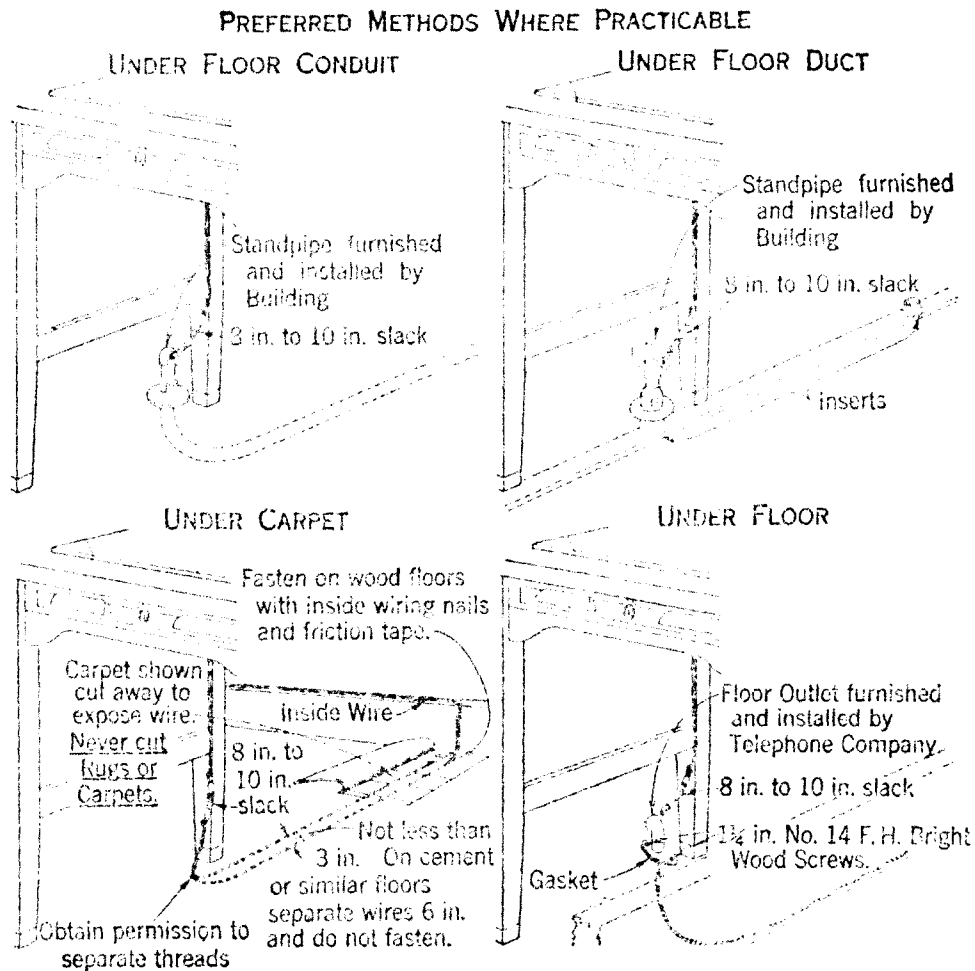
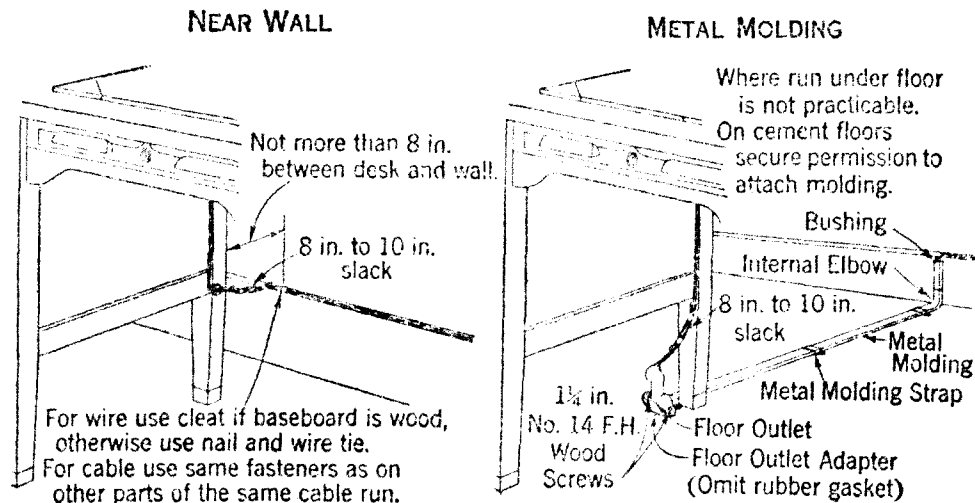
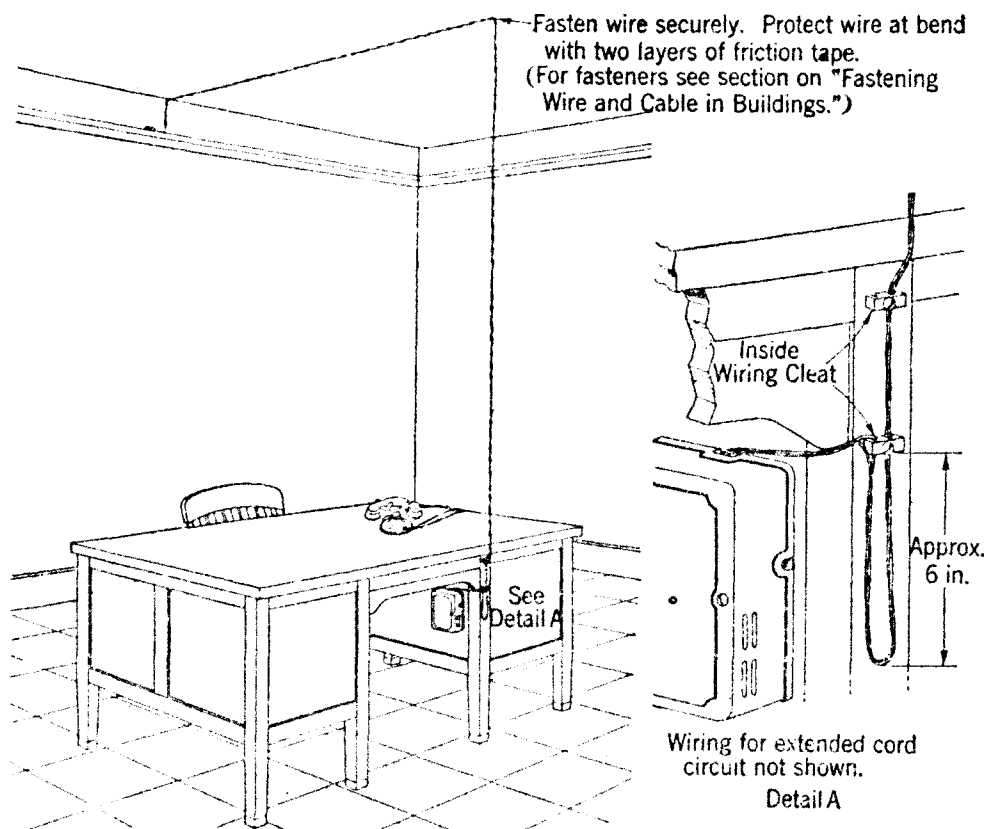

Fig. 1.
Fig. 2.
Fig. 4.
2.01 If practicable, each floor outlet or standpipe should be located near to and in back of a desk leg as shown in Fig. 1 and Fig. 2. In this connection do not locate floor outlet or standpipe where it is likely to be used as a foot rest by occupant of desk.
3.06 Fasten that portion of the run which is made on floor with molding straps. Place straps at both ends near fittings as shown in Fig. 2 and space intermediate straps, if required, at distances approximately the same as the distance between screw holes in base of molding.
3.10 Where the methods shown in Fig. 1 and Fig. 2 are not practicable, the method shown in Fig. 4 may be used (with approval of supervisor) where floor is of cement and subscriber does not want metal molding installed on floor.